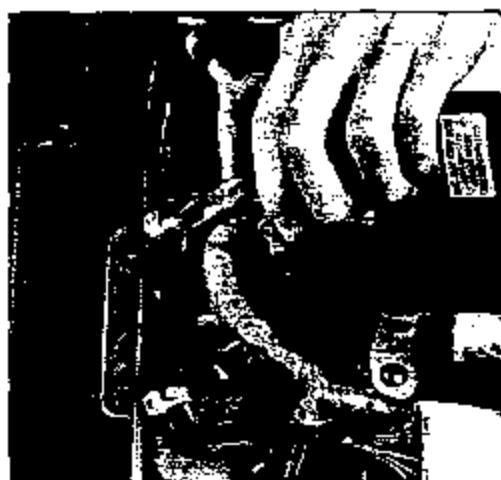

Figure 1
6. Remove the driver's seat. Disconnect the two connectors for the seat switch and the power seat. Cut the plastic ties securing the harness to the seat frame as shown in Figure 1. (Q45 has two tiewraps, M30 has one tiewrap).